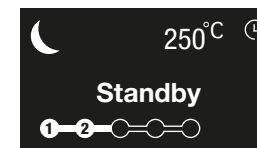

Fig.4
3. When the standby time has elapsed, the heater automatically returns to the set standby temperature. If the standby temperature is higher than the current temperature, the heater maintains the current temperature in standby mode (Fig.4).